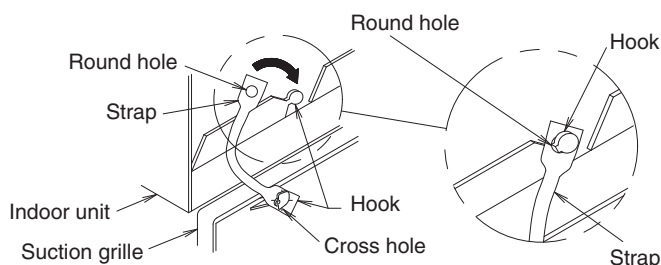

Fig. 35
- When installing the suction grille, hang the string of the suction grille to the hanging part of the indoor unit shown **Fig. 35**.